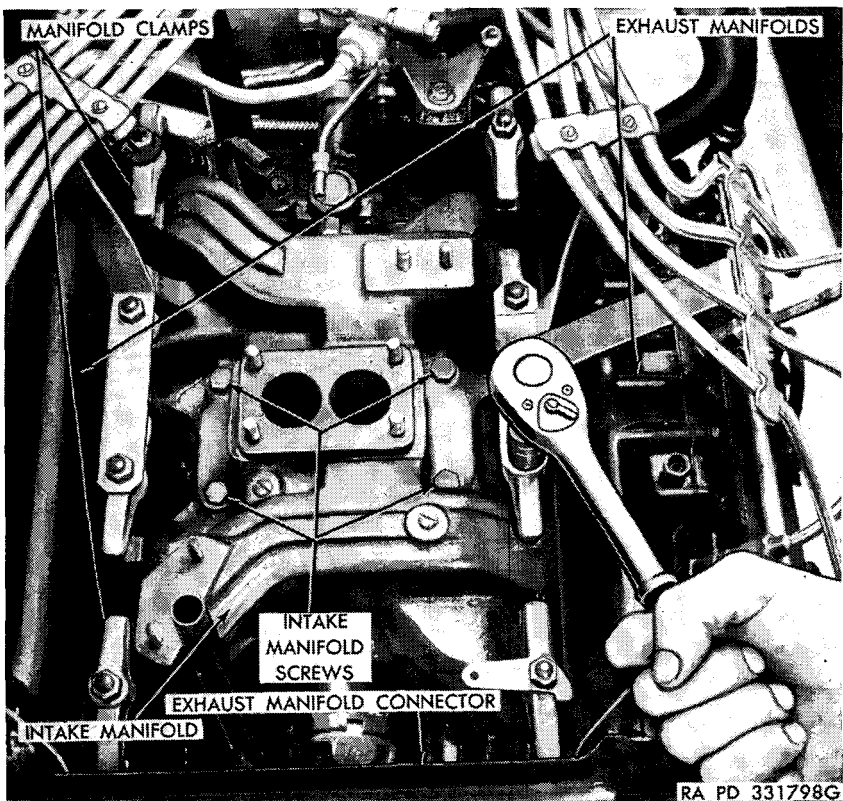
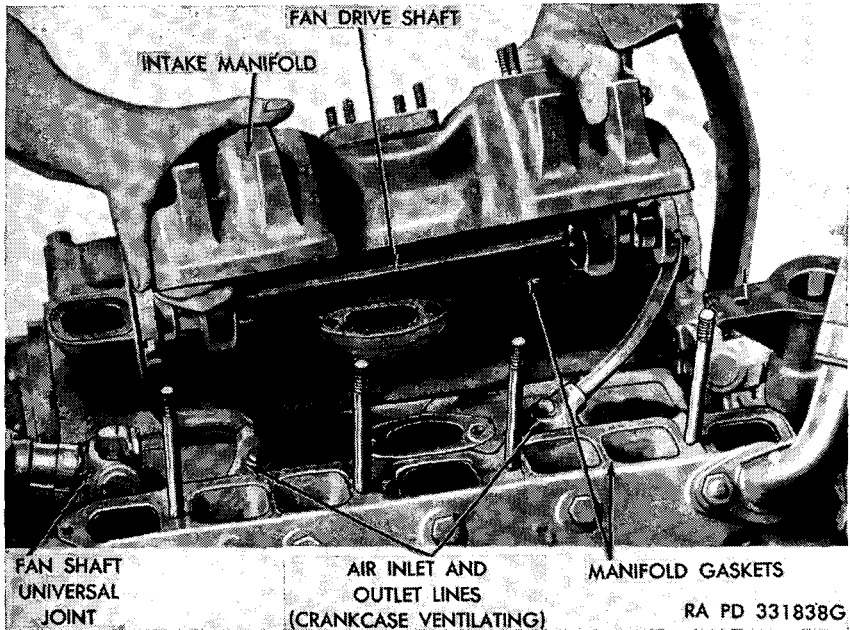

Figure 44. Removing exhaust manifold.
Figure 45. Removing intake manifold.
- (9) *Remove exhaust manifolds.* Remove remaining nuts and clamps holding exhaust manifolds to cylinder block (fig. 44). Remove manifolds.
- (10) *Remove intake manifold.* Bend back lock plates and remove four screws holding fan shaft universal joint to yoke at rear of intake manifold. Remove four intake manifold screws (fig. 44) and lift out manifold (fig. 45). Discard gaskets.